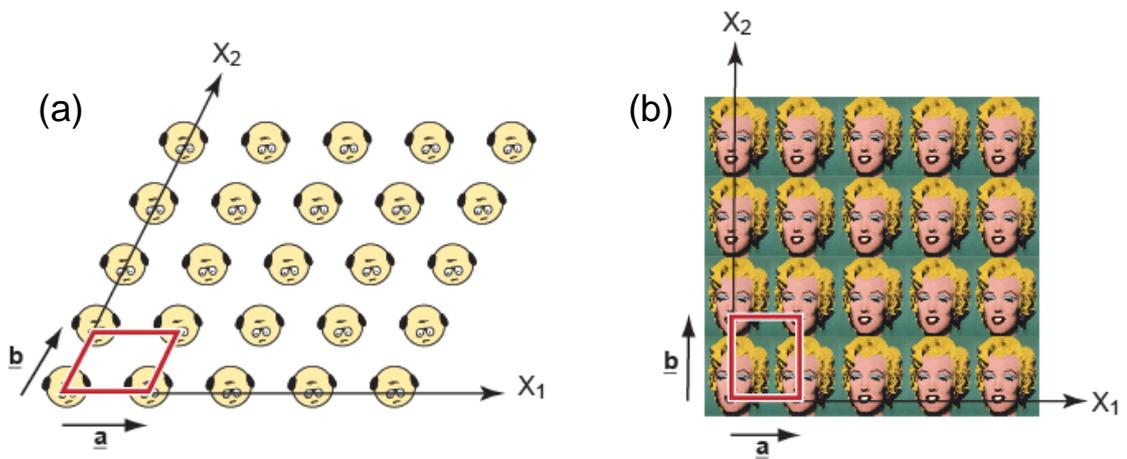

Figure C14. The translation vectors and primitive unit cells of the Professor and Miss Monroe.
**E7.** The Professor has crystallised onto an oblique lattice with symmetry 2. His structure has translational symmetry Figure C14 (a).
**E7.** Miss Monroe has chosen a rectangular lattice with point group symmetry  $2mm$ . Her structure, however, has no mirror planes because of her asymmetric basis (Figure C14(b)).